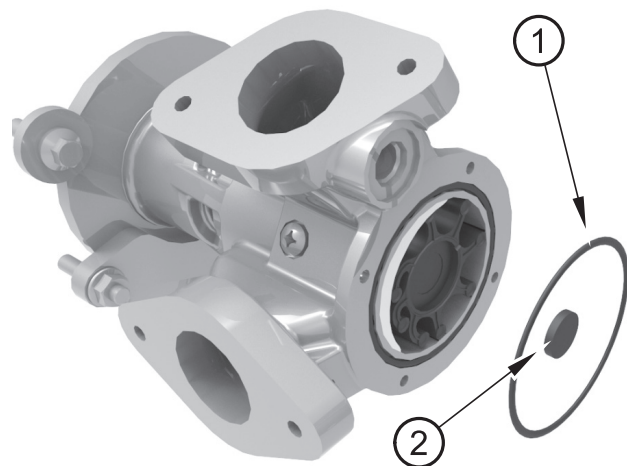

Figure 10
3. Care should be taken with the sealing 'O' ring (figure 10 item 1).